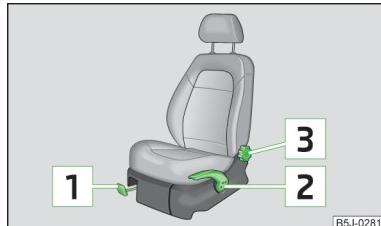

Fig. 54
- Pull lever [1] » Fig. 54 up and push the seat into the desired position.
- To lift the seat, pull or pump lever [2] » Fig. 54 upwards.
- To adjust the angle of the backrest, relieve any pressure from the seat backrest (do not lean on it) and turn handwheel [3] » Fig. 54.